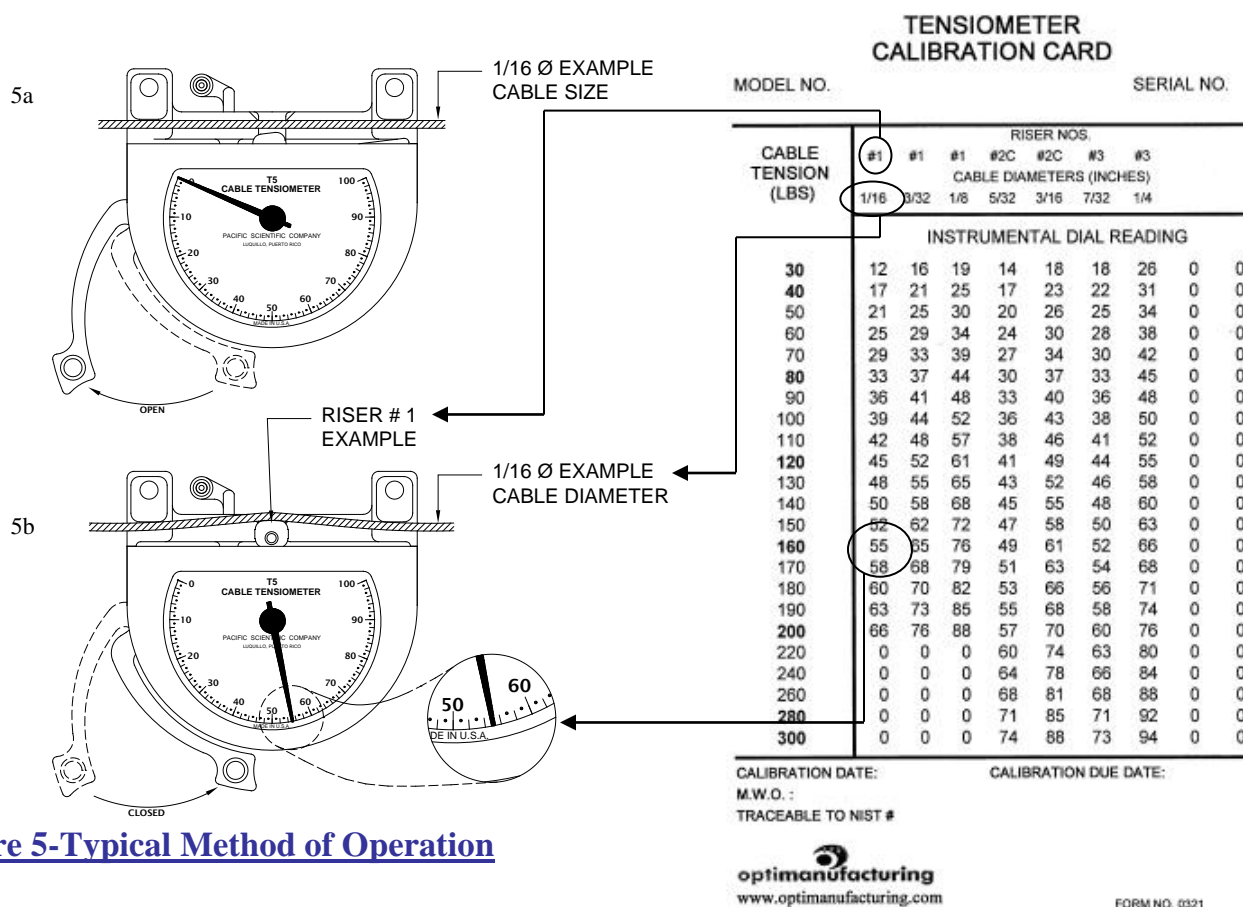

Figure 5-Typical Method of Operation
- 3-1. **PREPARATION FOR USE-** *It is vital to have the correct riser mounted on the instrument.* Refer to Table 4 to determine the correct riser required for the size cable to be tested. Selection of the wrong riser will give incorrect readings and may damage the Tensiometer. This information is given on the calibration card for each model (See Figure 5). *Each calibration card is prepared for a specific Tensiometer.* The serial number, noted near the upper right corner of the calibration card, must match the serial number noted on the nameplate of the Tensiometer. The use of non-matched sets will give incorrect readings and render the Tensiometer out of calibration. The *brake rod* must also be checked to see that it is in the **unlocked** position before clamping the instrument on the cable. For avoid damage on common use, the operator shall be using the Wrist Band adjustable (54 on fig. 10).
- f. Convert the dial reading to tension in pounds by referring to the calibration chart. A typical conversion is shown in Figure 5, where a dial reading of 55 points with the instrument testing a 1/16-inch cable and Riser #1 is converted to 160 pounds tension by referring to the calibration chart. (See Figure 5).